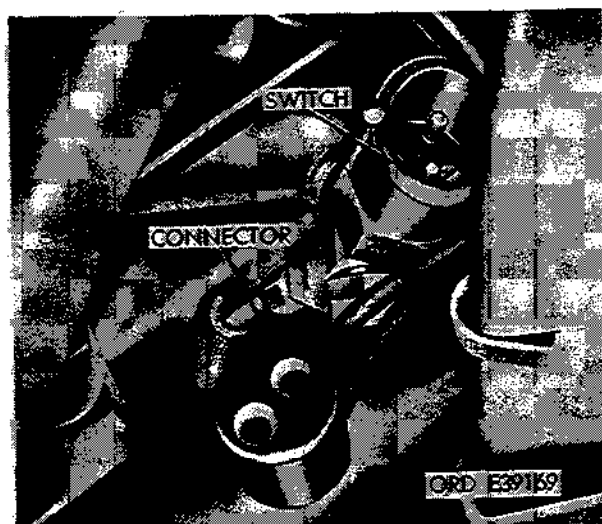

Figure 2-281. Disconnect cable connectors at stoplight switch.
(1) Disconnect cable connectors at stoplight switch (fig. 2-281) located behind the instrument panel on the bottom of the master cylinder assembly.